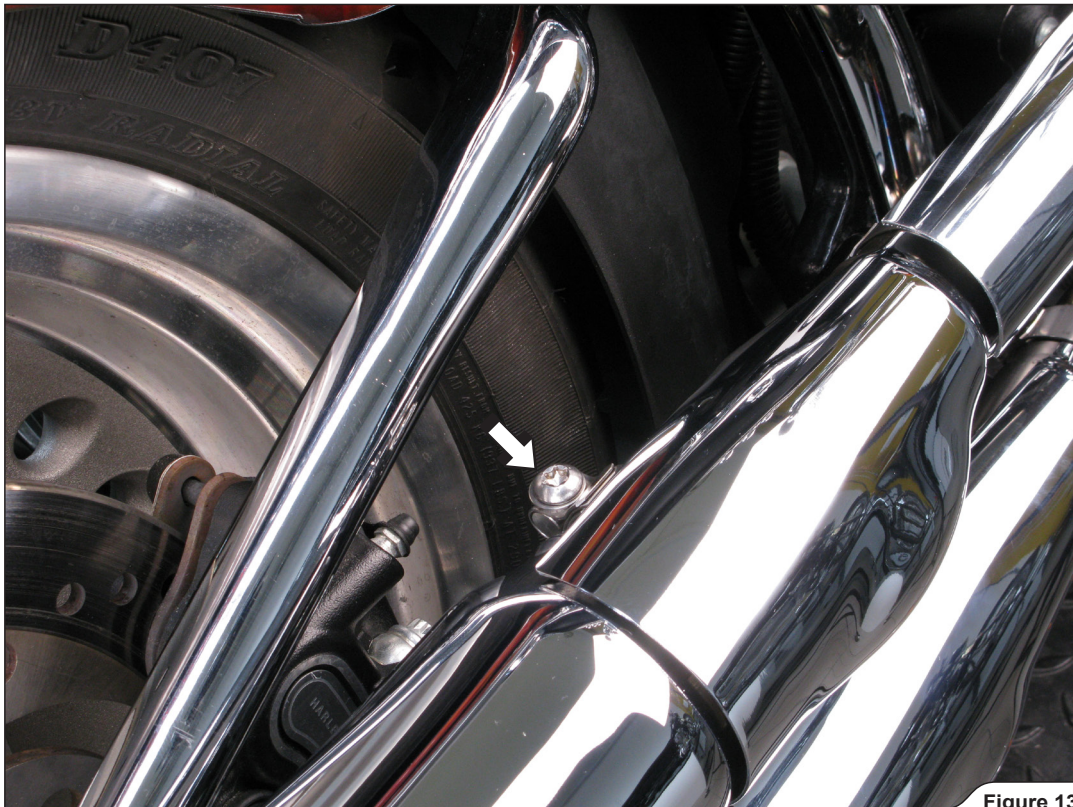

Figure 13
13. Assemble heat shields (**Figure 13**).